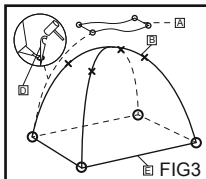

FIG3
5. Now cover the tent with the outer tent<A> and hook the 4 loops.(FIG3)
6. Secure the tent by pushing the tent pegs<D> into the ground loops.(FIG3)